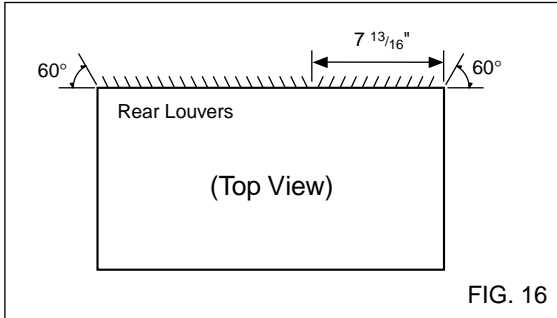

FIG. 16
- 1 Redirect the louvers at the back of the wall sleeve to 60° angle as shown in the FIG 16. The use of pliers is recommended.